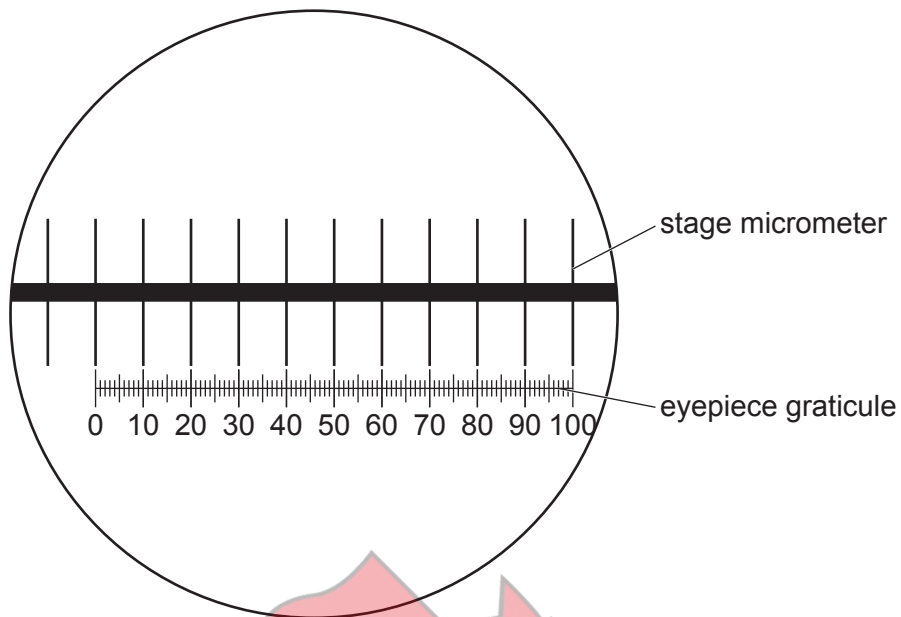

Fig. 2.3
- (ii) Fig. 2.3 shows a diagram of a stage micrometer scale that is being used to calibrate an eyepiece graticule.
Use Fig. 2.3 to calculate the length of **one** eyepiece graticule unit.